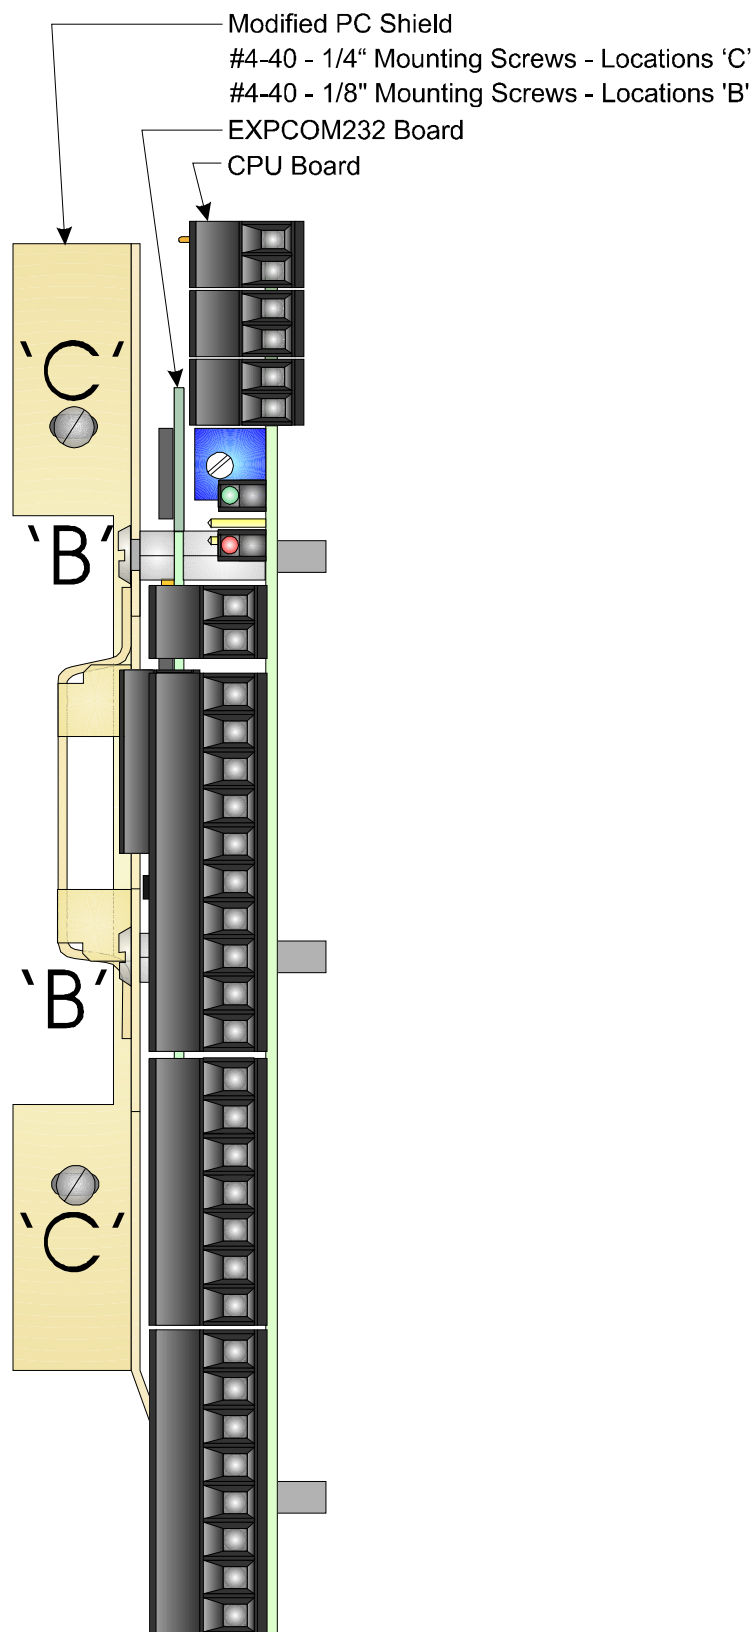

**Figure 4 - TeleFlow CPU Board (with EXPCOM232 Installed)
10. Carefully install the Modified PC Shield, securing it to the Main Mounting Bracket (at locations 'C') with two #4-40 x 1/4" screws and to the CPU Board (at locations 'B') with two (2) #4-40 x 1/8" SEM screws (see Figures 4, 5, 6 & 7).